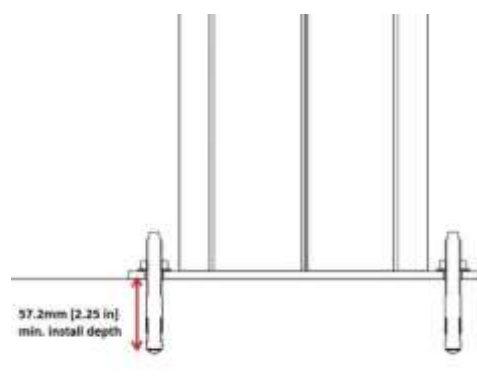

Figure 5—Wedge anchors secure Pedestal when installed in concrete 2.25 inches
- a. Pedestal should be mounted on a concrete pad or driveway that is 4 inches thick or thicker. The wedge anchors will secure the charger to the concrete when the anchors are installed to a depth of 2.25 inches (Figure 5).